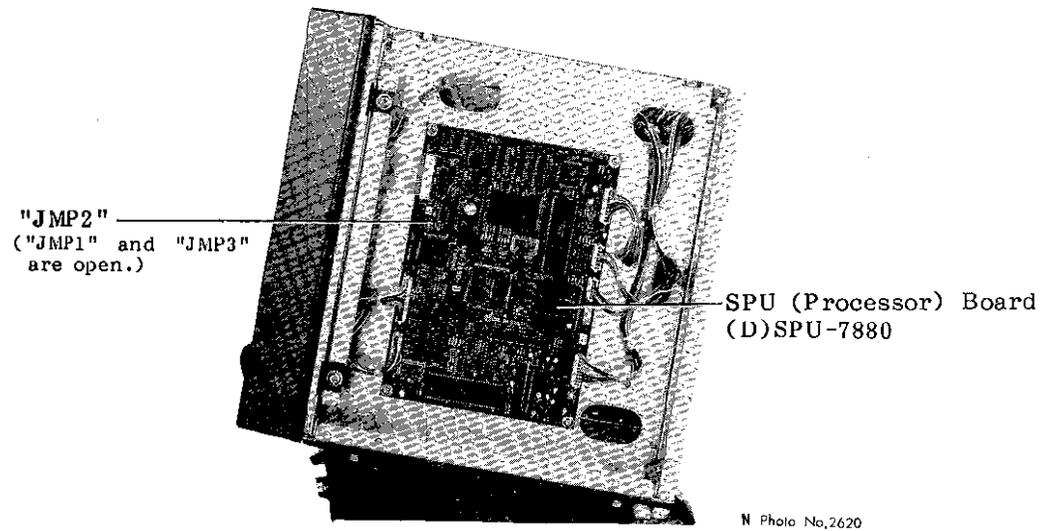

Fig. 52 Display Unit Side View
3. Pull out jumper JMP2 on the SPU-7880 processor board, and operate the radar for transmission on 0.25nm range. See Fig.52